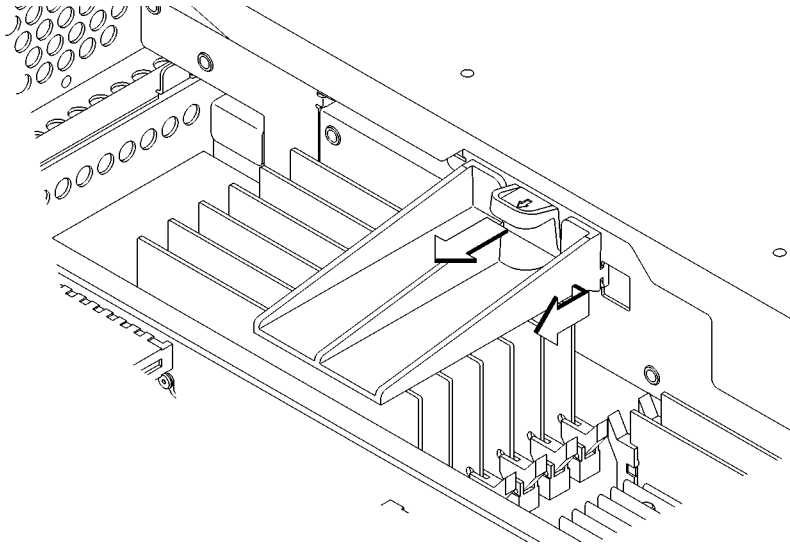

Figure 46 **Removing the Memory Retainer**
- 2 Pull the tab on the memory retainer and slide it toward the front of the main tray to remove it, as shown in Figure 46.